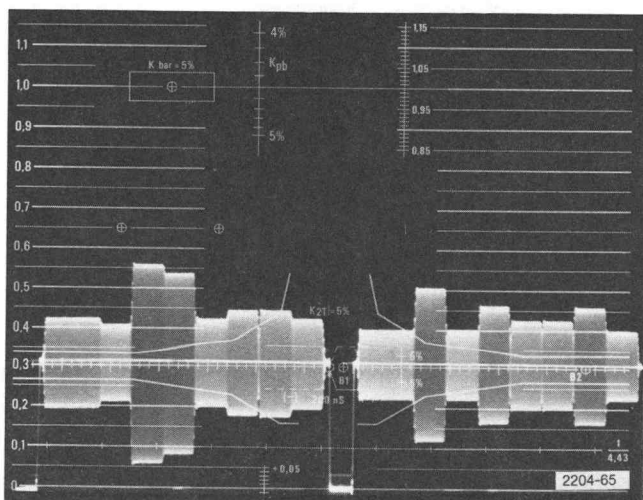

Fig. 6-18. Color Bar amplitude.
- CHECK—the display for equal amplitudes of subcarrier for the red and blue color bars on the D'R line & equal amplitudes for the red and magenta color bars on the D'B line. See Fig. 6-18.